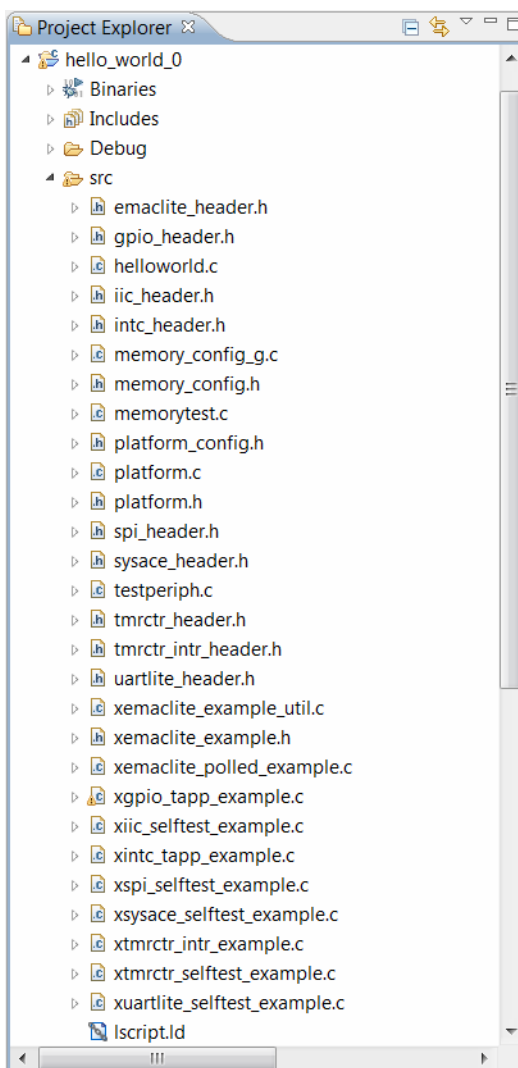

Figure 5-4: Source Files in hello_world_0
7. Drag and drop source files from `memory_tests_0` and `peripheral_tests_0` into the `src` subfolder of the `hello_world_0` folder. Figure 5-4 shows the source files that the directory should contain.